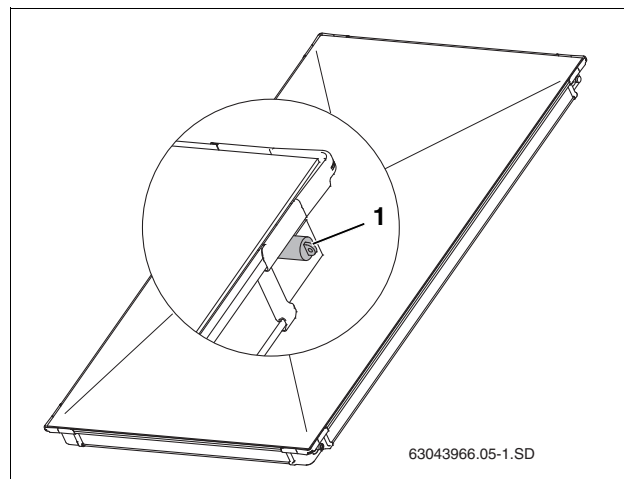

Fig. 6 Rubber caps on collector connections
- ▶ Do not remove the rubber caps (Fig. 6, [1]) until immediately prior to installation.